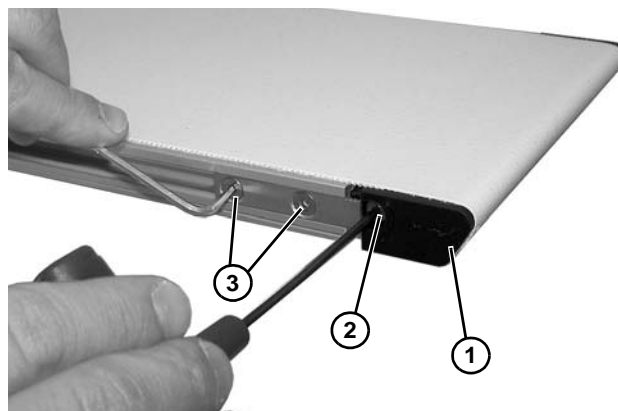

Figure 27
2. On tension end of the conveyor, adjust idler end (**Figure 27, item 1**) tracking cam (**Figure 27, item 2**) just enough to remove slack in the belt.
3. Tighten screws (**Figure 27, item 3**) to 12 in-lb (1.4 Nm).